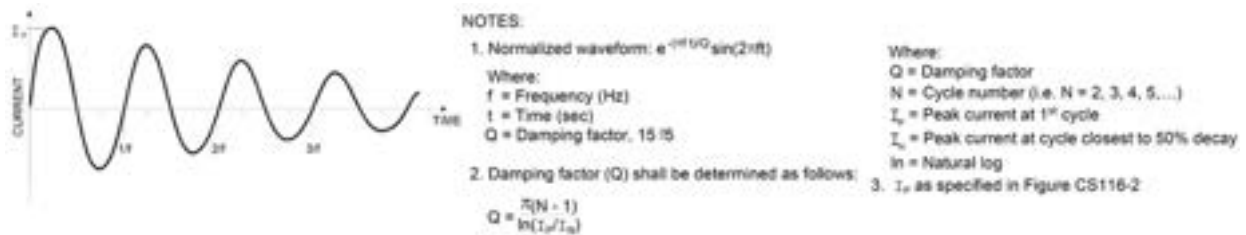
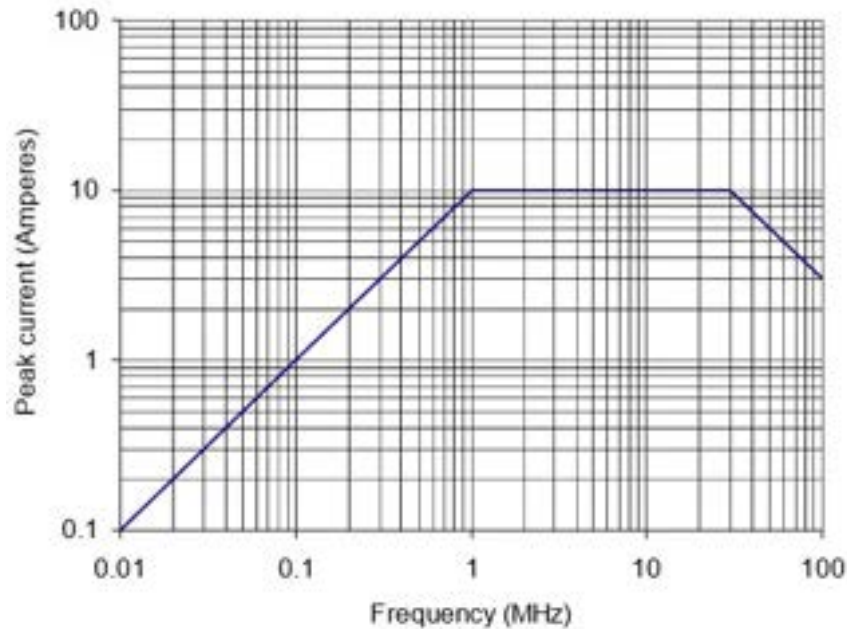

Figure 5.5-1: CS116 Damped Sinusoidal Waveform
Figure 5.5-2: CS116 Limit for all Applications
The EUT shall not exhibit any malfunction, degradation of performance, or deviation from specified indications beyond the tolerances indicated in the individual equipment or subsystem specification when subjected to the signal shown in Figure 5.5-1, and having a maximum current as specified in Figure 5.5-2.
3. The signal from the damped sine generator was adjusted to the level specified in Figure 5.5-2.
5. The waveform shall comply with the requirements of Figure 5.5-1.